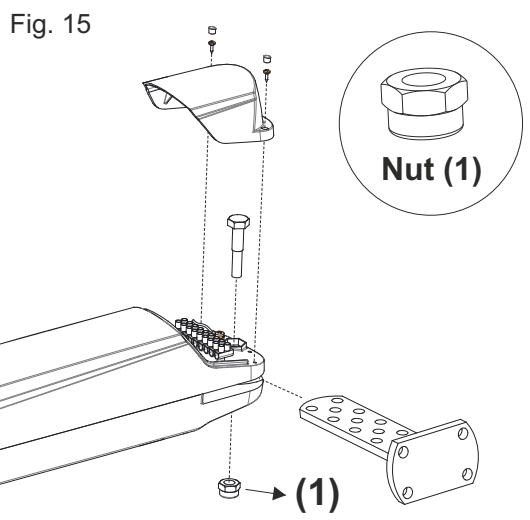

Fig. 15
**⚠ CAUTION!** To avoid the oscillation of the operator during the operating phase, it is recommended to adjust the nut (1) (Fig. 15) taking care to not block the rotation of the operator on the fixing bracket